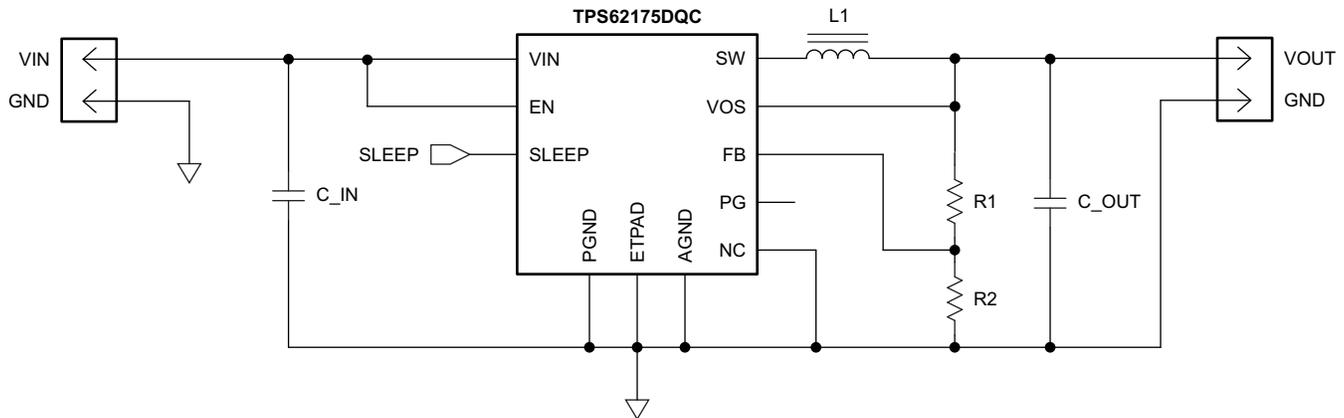

Figure 1. TPS62175 Buck Topology
The inverting buck boost topology is very similar to the buck topology. In the buck configuration shown in Figure 1, the positive connection (V_{OUT}) is connected to the inductor and the return connection is connected to the integrated circuit (IC) ground. However, in the inverting buck boost configuration shown in Figure 2, the IC ground is used as the negative output voltage pin (labeled as $-V_{OUT}$). What used to be the positive output in the buck configuration is used as the ground (GND). This inverting topology allows the output voltage to be inverted and is always lower than the ground.